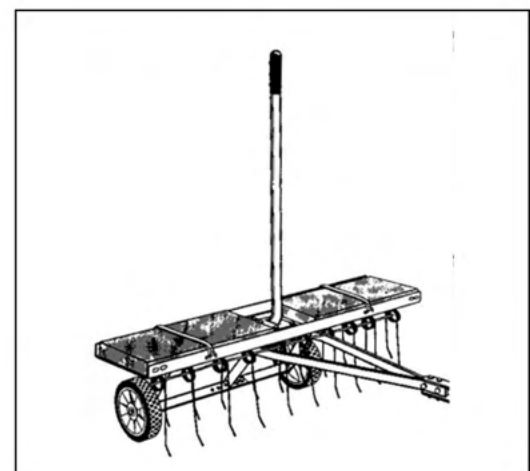

FIGURE 11
5. If the lawn aerator bounces during use, you should add extra weight to the base plate. Typically, extra weight is needed. Concrete blocks are recommended due to their profile, but any type of weight can be used as long as it can be secured to the base plate. Secure the weight with suitable fastening materials such as rubber bands or wire, which can be threaded through the holes on the side of the base plate. See Figure 11.